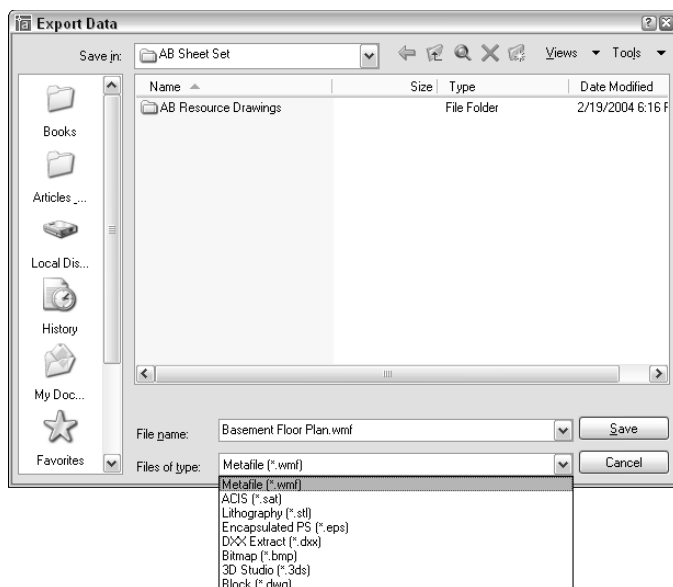

Figure 27-2: The Export Data dialog box.
1. Choose **File** ⇨ **Export** to open the **Export Data** dialog box, shown in Figure 27-2.